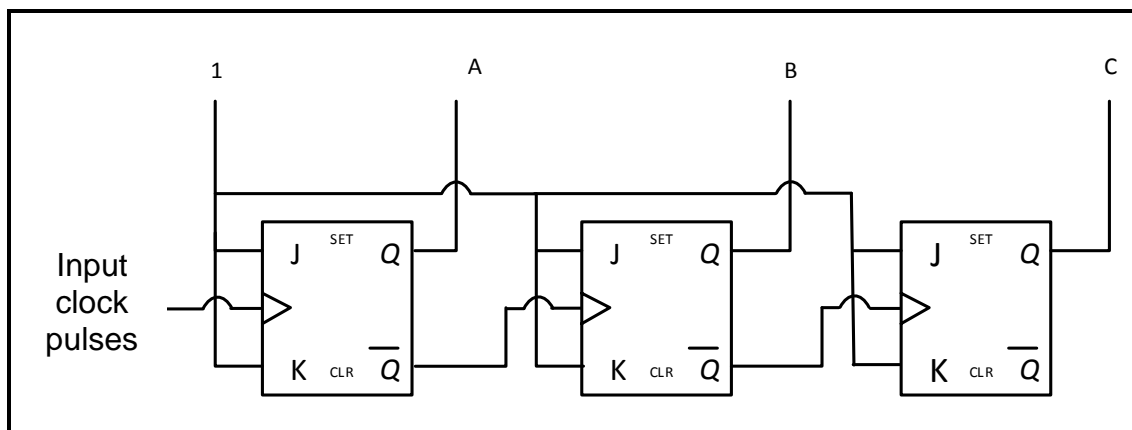

FIGURE 4.7: ASYNCHRONOUS RIPPLE COUNTER
4.7 FIGURE 4.7 below shows a three-stage asynchronous ripple counter. Complete the timing diagram on ANSWER SHEET 4.7.
4.8 Explain why the circuit in FIGURE 4.7 is called *asynchronous*. (3)